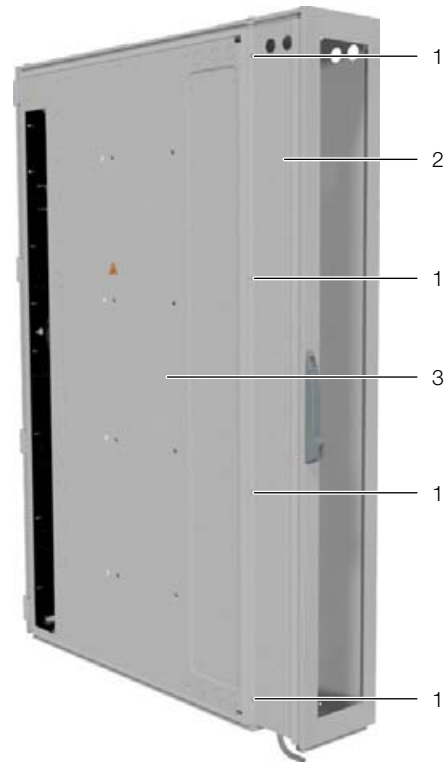

Fig. 28: Adaptor on the LCP Inline
- Attach the adaptor (fig. 28, item 2) to the rear opening of the LCP Inline using four of the supplied screws (fig. 28, item 1) each on the left and right.